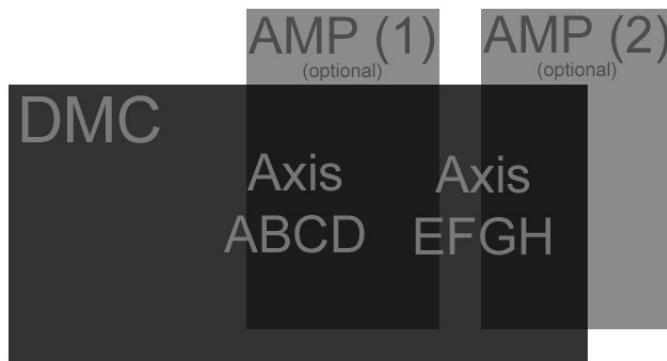
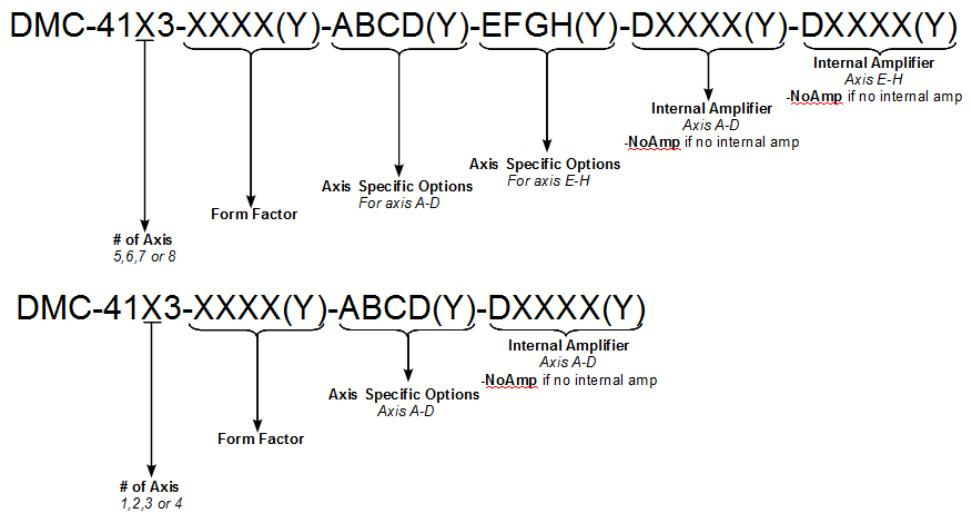

Figure 1.2: Abstract layout of a 5-8 axis DMC-41x3 and optional internal amps
Figure 1.3: Layout of the full DMC-41x3 part number
The 5-8 axis models have room for an additional bank of internal amplifiers as shown in Figure 1.2.
The full DMC-41x3 part number is a combination of the DMC controller part number (DMC-41x3), form factor (“-XXXX(Y)”), axis-specific options (-ABCD(Y) and -EFGH(Y)), and optional amplifier types (-DXXXX(Y)), where Y is customization options for that specific board or set of axis. The layout of the full DMC-41x3 part number is shown in Figure 1.3 below.
The placement of the AMP/SDM options is extremely important for 5-8 axis models. Reading the DMC-41x3 part number in Figure 1.3 from left to right, the first AMP/SDM (Axis A-D) will be placed in the AMP(1) spot as shown in Figure 1.2 and the second AMP/SDM (Axis E-H) will be placed in the AMP(2) spot.